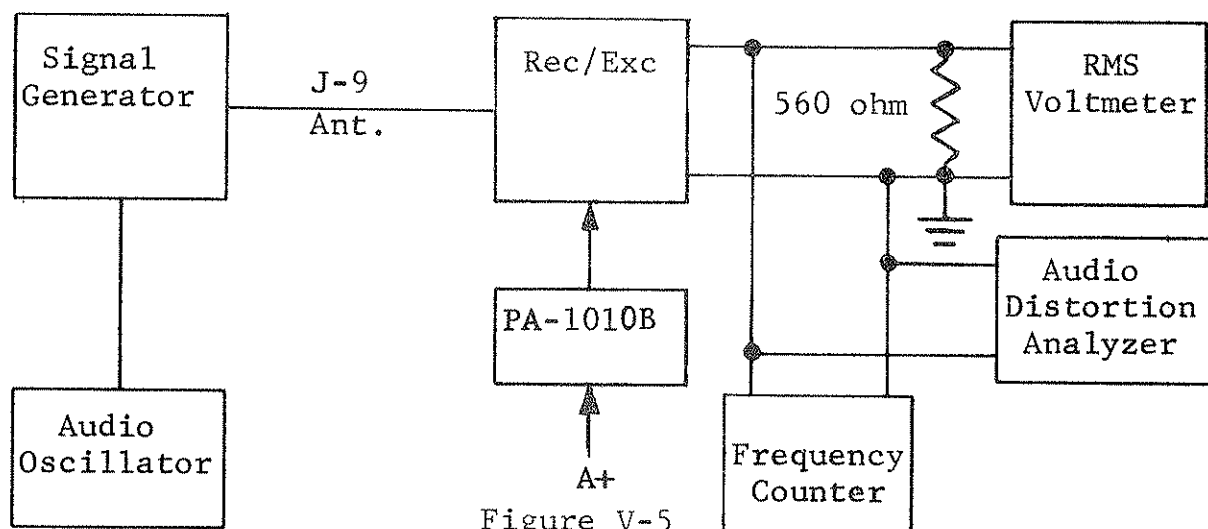

Figure V-5
- (1) Follow steps (1) through (4) Paragraph 1-a.
- (2) Connect test equipment, as shown in Figure V-5.